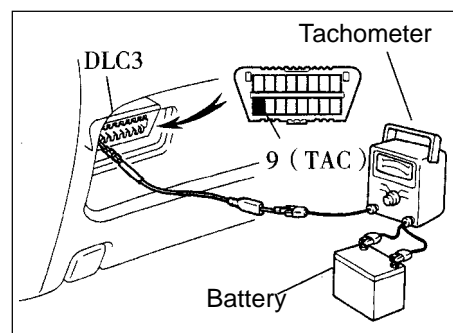

Figure 1-3
11. Check the engine idle (see Figure 1-3).
Connect the test pen of the tachometer to the terminal 9(TAC) of the fault diagnosis socket (DLC3) with special tool (SST). (see Figure 1-3).